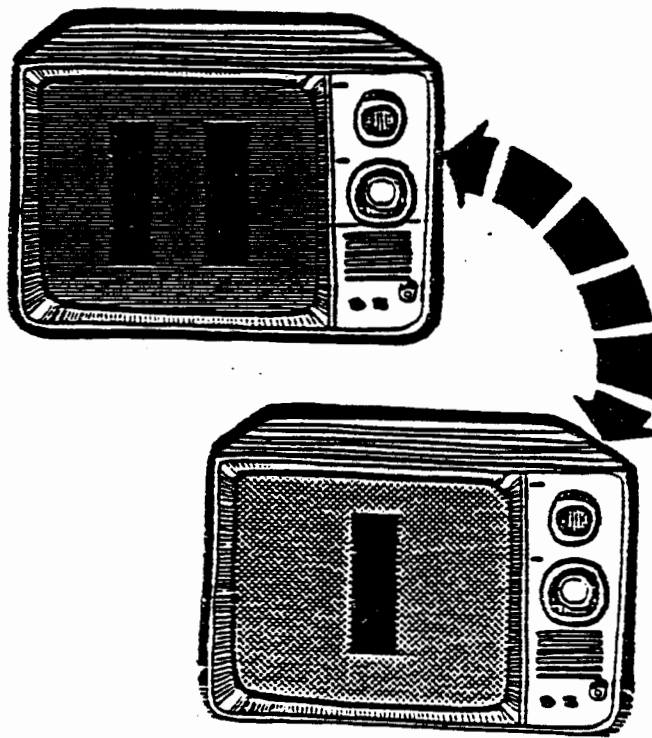

Figure 3-12. Audio Tone Test Screens
- **Format:** The VCS unit should be in the initialized mode. Move the Right Difficulty switch to the "B" position. The test displays two alternating patterns on the screen (as shown in Figure 3-12) while two alternating tones are heard. The tones change in sync with the screen. This test pattern continues for one full cycle after the Right Difficulty switch has been returned to the initialized position.